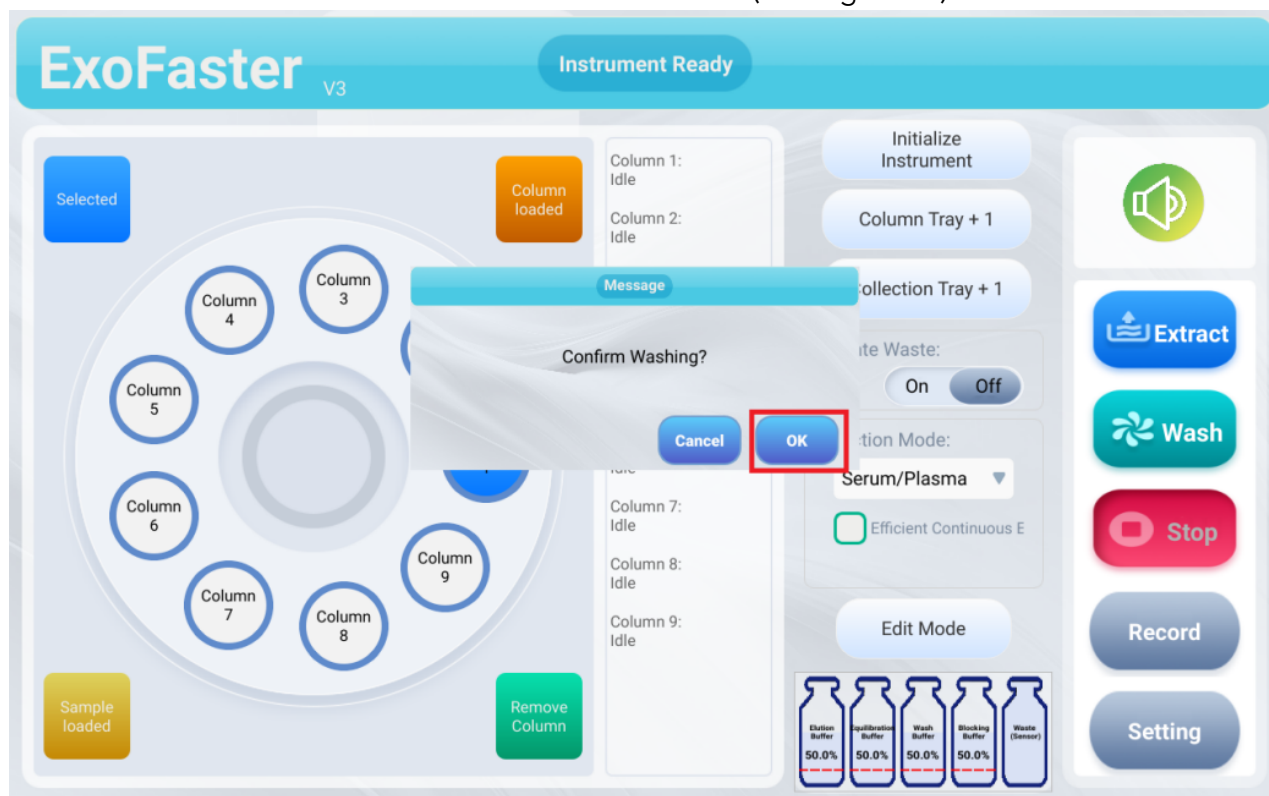

Figure 12
- Click **Wash**. Click **OK** to confirm and start column wash (See Figure 12).